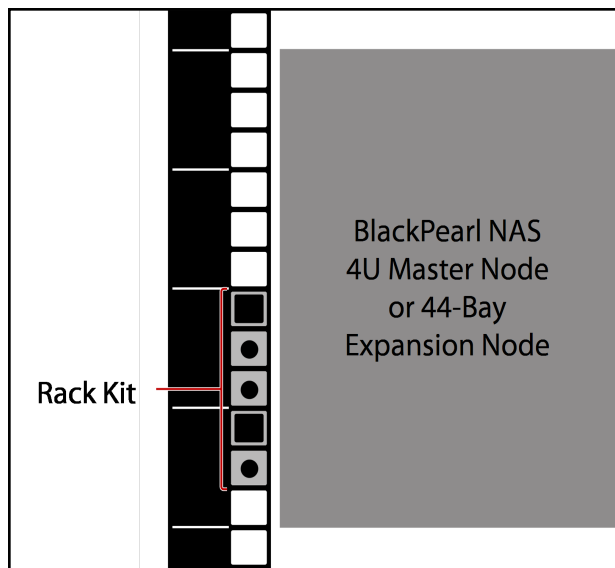
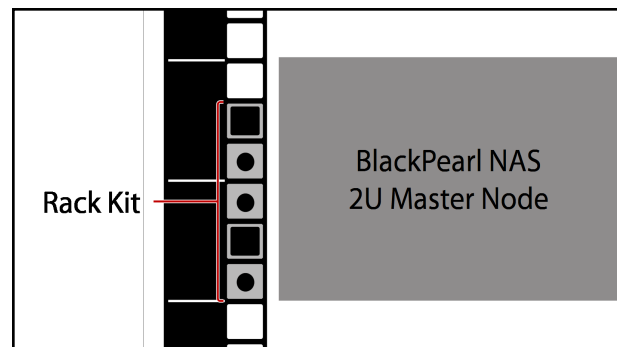

Figure 30 Relationship between rack kit position and the position of the 4U chassis.
Figure 31 Relationship between rack kit position and the position of the 2U chassis.
6. Determine the vertical position of the rack mount kit in the rack. Figure 30 and Figure 31 show the relationship of the rack kit position in the rack and the resulting position of the chassis.